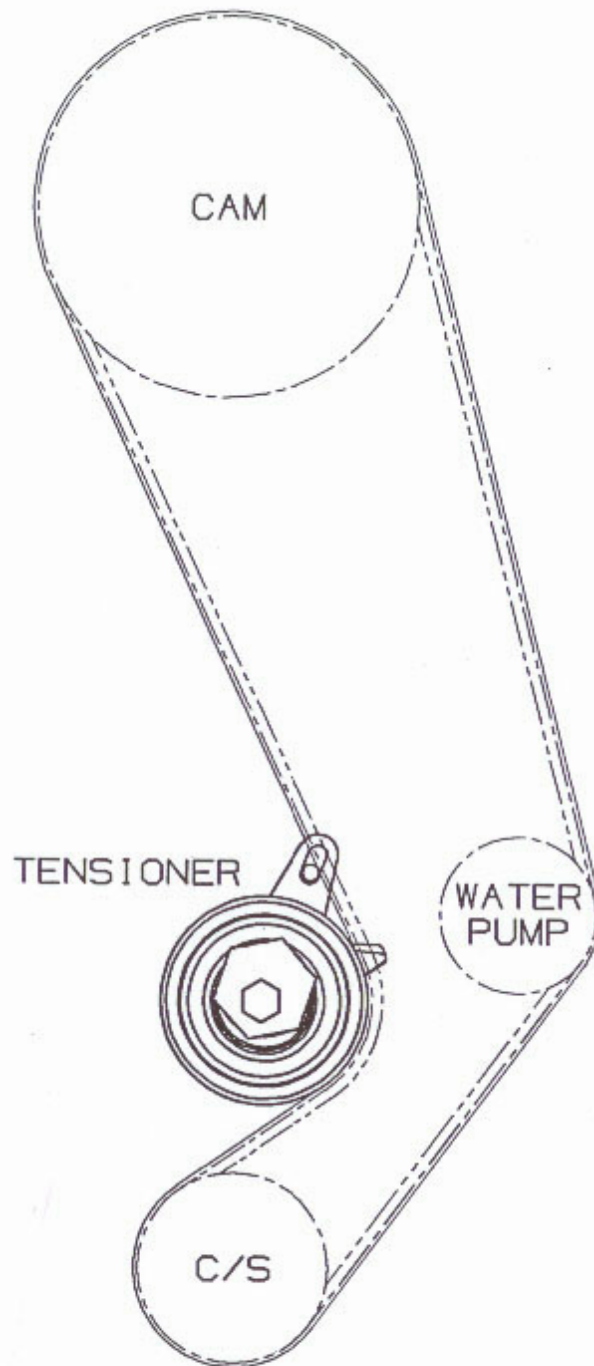

Figure 2: Belt layout for 979332 (VW 2.5L I5.)
5. Install the timing belt being careful to engage the appropriate teeth of all the corresponding sprockets as per drive layout (See Figure 2).